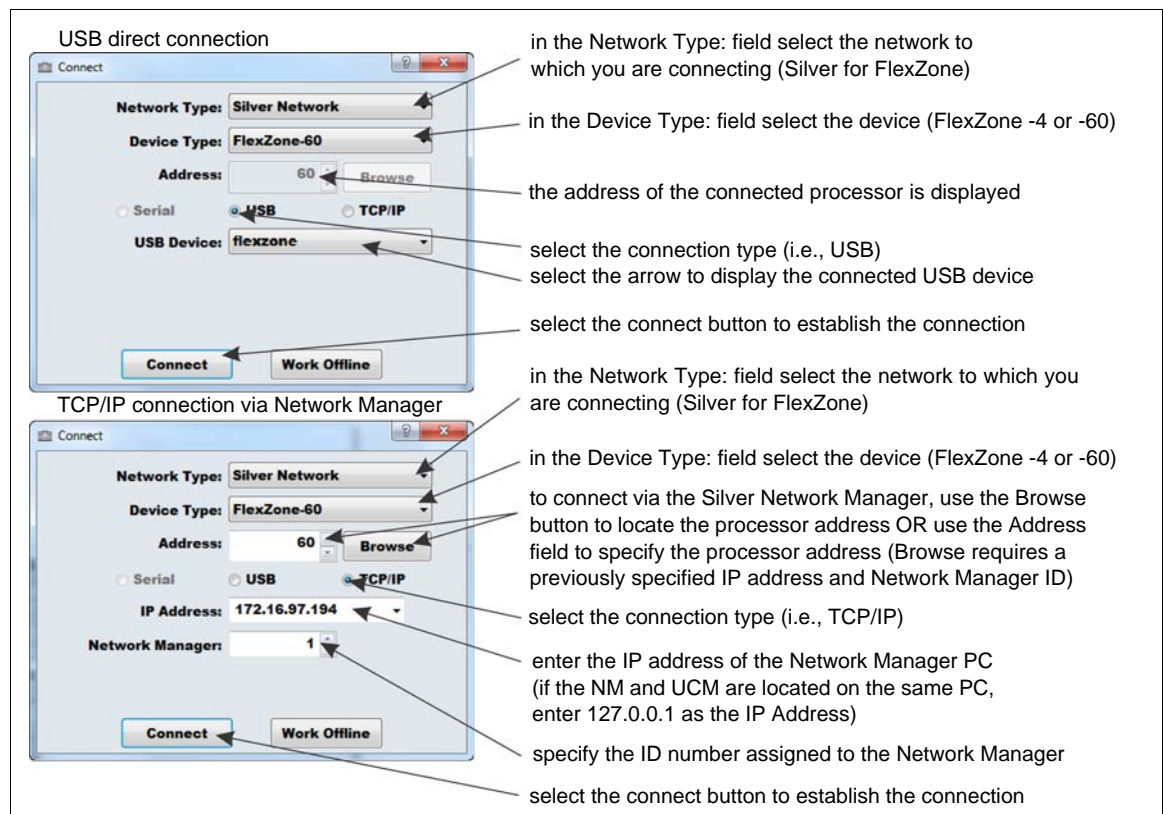

Figure 75: Connecting the UCM
2. Start the UCM software (the UCM Connect dialog displays see Figure 75:).